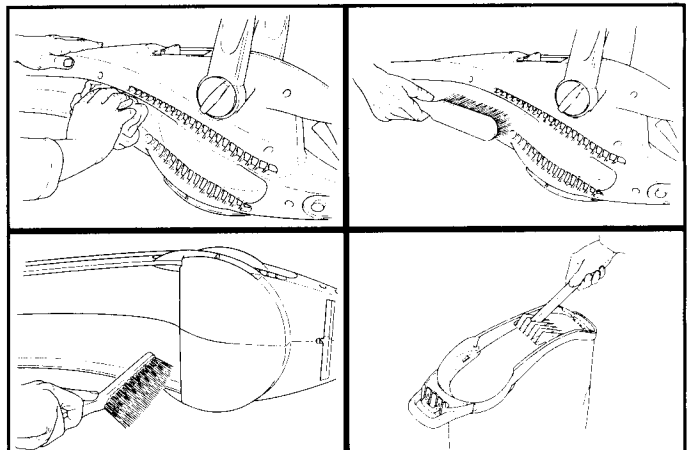

Figure 17
1. **Keep air vents and tubes free of debris** to avoid overheating the motor. Figure 17. Prevent foreign objects from entering the tubes.
3. **Clean the unit and labels** using a soft cloth. Figure 17.
4. **Remove debris from the air intake vents** using a soft brush. Figure 17.
5. **Remove debris from collection chute** using a soft brush. Figure 17.
6. **Remove debris from the debris fin** with a suitable tool. Figure 17.